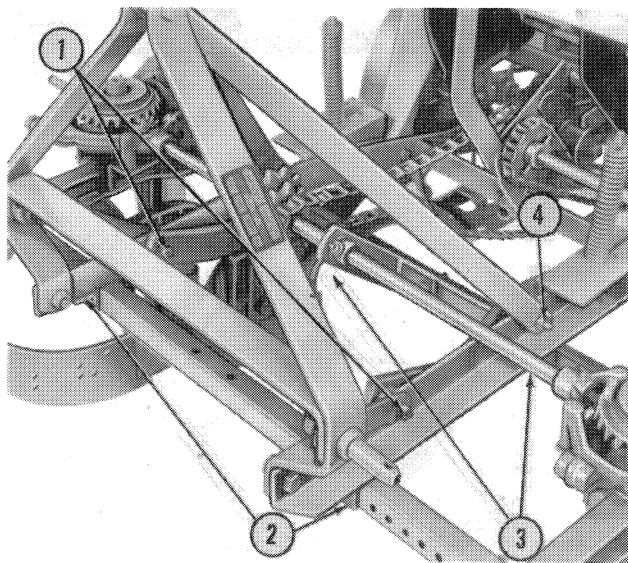

Figure 7
- a. Remove the bolts (4), Figure 7, that secure the rear diagonal braces to the hitch braces.
- b. Position the hitch on the runner frame as shown in Figure 7, and secure the rear braces to the hitch braces with the bolts (4).
- c. Secure the hitch braces to the runner frame at (2) and (3) with the bolts provided.
5. Secure the forward ends of the planter wheel frame to the hitch assembly at (1), Figure 7, with the bolts and spacers provided.
Attaching: The Two-Row Hitch Assembly is bolted to the planter at the six points shown at (1), (2), and (3), Figure 7. The bolts used at (1) and (2) are 7/16" x 2-1/2" and the bolts at (3) are 7/16" x 1-3/4". Two spacers are provided for use between the frame and the hitch at (1).